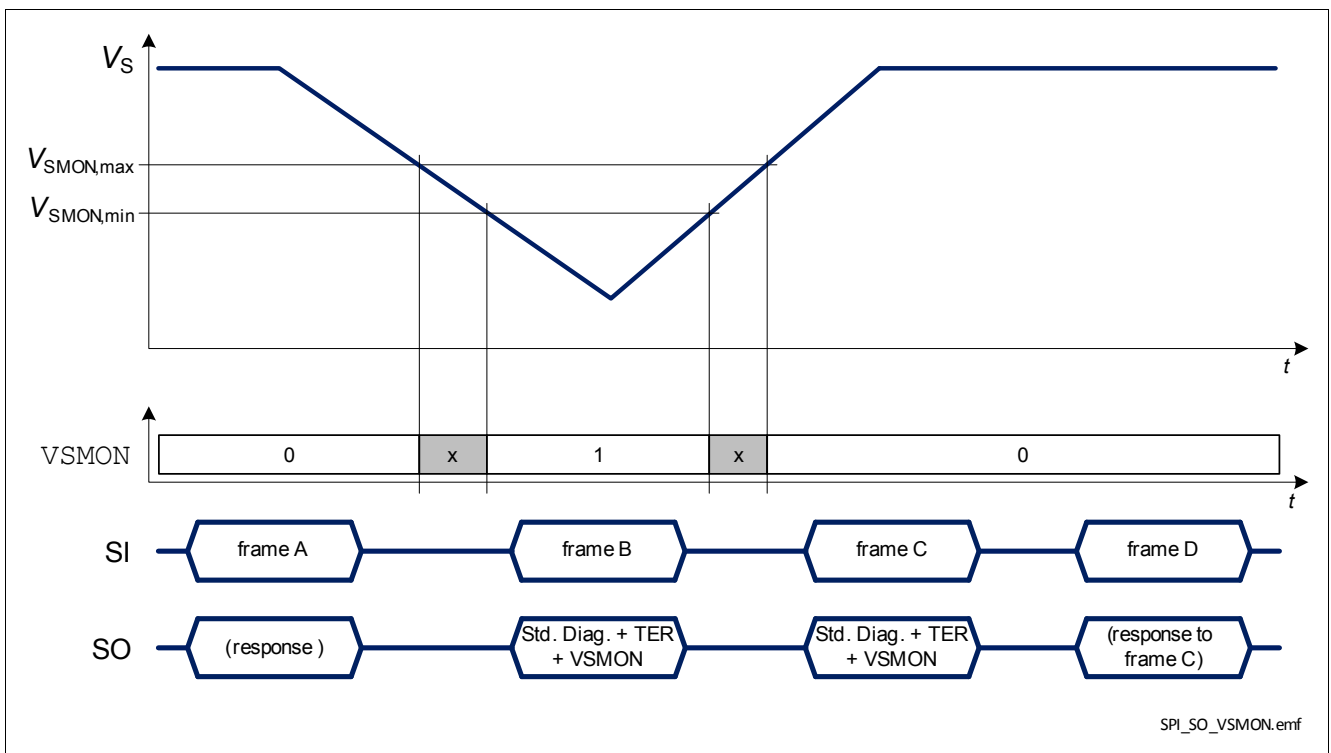

Figure 34 BTS54220-LBA response in case of a negative battery voltage transient
- when  $V_S < V_{SMON}$  and  $\text{DCR.MUX} \neq 111_B$ , as shown in Figure 34